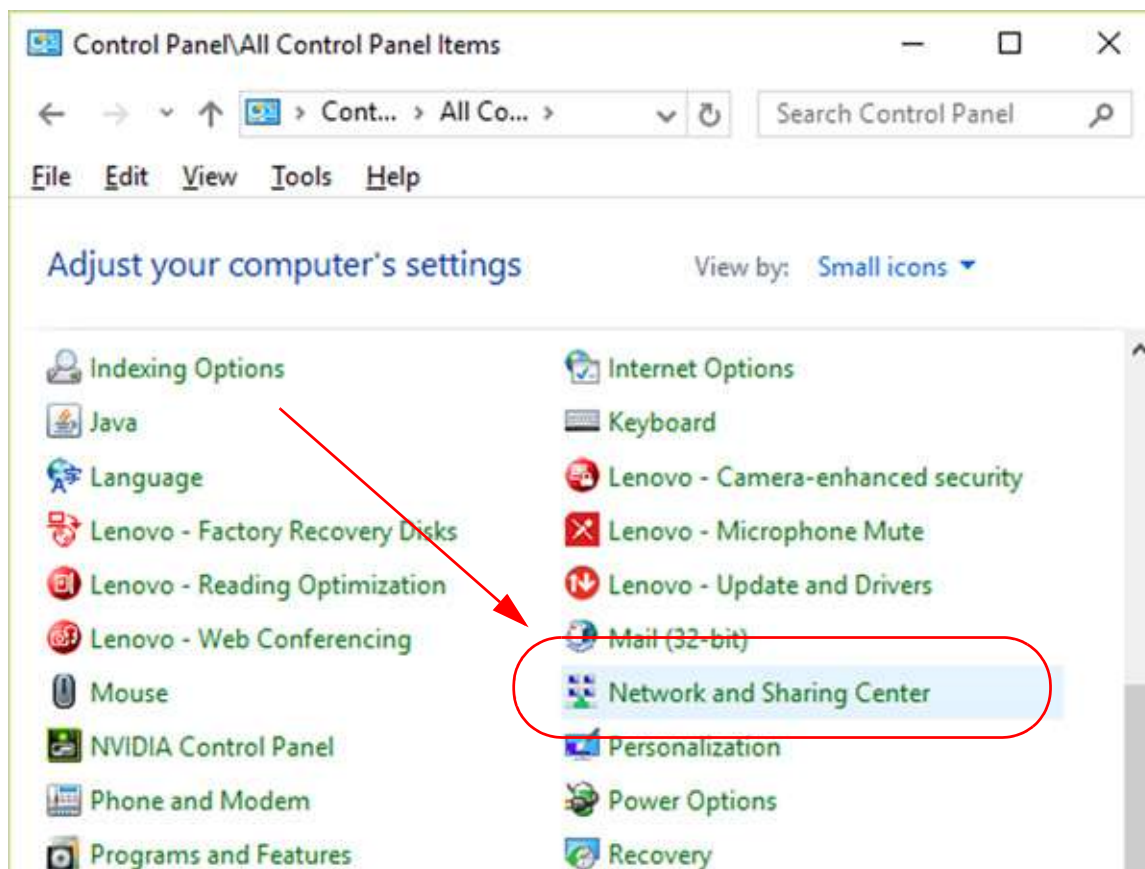

Figure 3.20: Control Panel: All Items -> Network and Sharing Center
1. To use a Static IP address, first set up your computer's IP address to a Static IP Address. Start by opening your Control Panel (Start -> Windows System -> Control Panel) and selecting the Network and Sharing Center icon. (See Figure 3.20 on page 125).